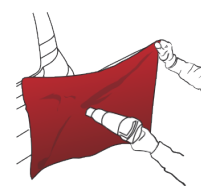
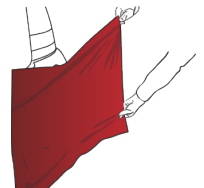
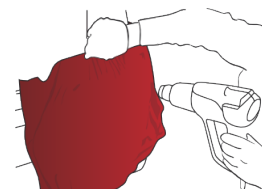

Figure 23
Figure 24
Figure 27
- › Heat the vinyl (FIG. 23) to a temperature ranging from 30 °C to 40 °C (from 86 °F to 104 °F), then stretch the film so as to completely wrap the convex surface. (FIG. 24)
- › After this operation, heat to a temperature ranging from 30 °C to 40 °C (from 86 °F to 104 °F) (FIG. 27) and work the memory effect of the film to eliminate all folds using the squeegee.
! *Take particular care when heating the stretched film (FIG. 23) (FIG. 27). The hot air gun or the blow torch must never be held at a right angle to the surface of the film. It should be inclined so as to heat a larger surface area. Keep the hot air gun moving all the time. Heating the film from a reduced distance and over a prolonged time may irreversibly damage the film.*